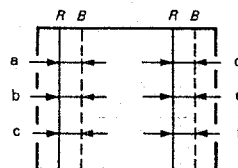

Fig. 3-7
- Adjust the CORNER BOW (RV1703), so that RED and BLUE shown in Fig3-7 will become $a=b=c$ and $d=e=f$.